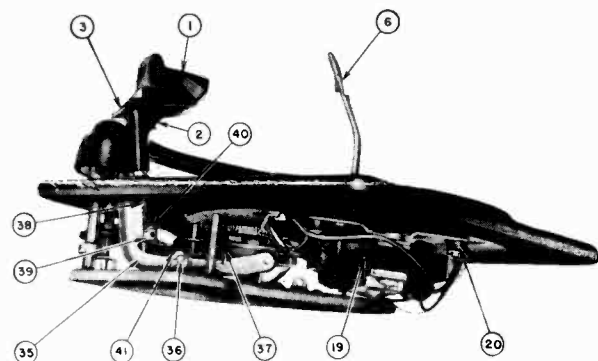

Fig. 6
- a. With the mechanism at rest, wedge the Rocker Arm firmly by inserting a screwdriver between the Rocker Arm and the Sub Plate at a point between the Rocker-Arm Pivot (36, Fig. 6) and the stud to the right of it.
5. Selector-Lever Stop (40, Fig. 6).
3. Unhook the Rocker-Arm-Return Spring. (37, Fig. 6).
4. Remove the Rocker-Arm-Pivot Pin (36, Fig. 6).